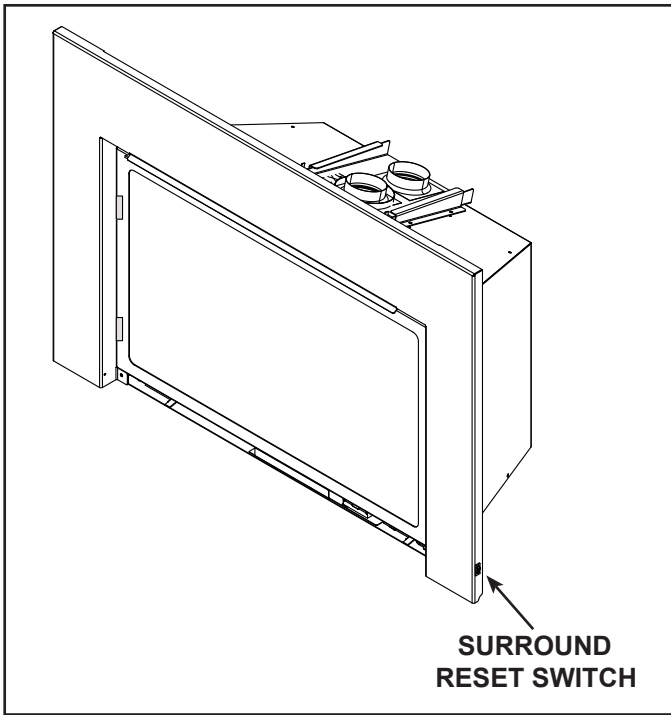

Figure 3.7 Surround Reset Switch
2. Toggle surround manual reset switch position to “OFF”. See Figure 3.7. Check to make sure the ignition module switch is **NOT** in the “ON” position.
- Toggle surround manual reset switch position to “ON”. See Figure 3.7. Check to make sure ignition module switch is in the “REMOTE” position.
- Toggle surround manual reset switch position to “ON”. See Figure 3.7.
- Toggle surround manual reset switch position to “OFF”. See Figure 3.7.
5. The module has the capability to recognize potential malfunctions. If these occur, it will fail to ignite and/or respond to a command to ignite via the wall switch and/or remote. In this case, the module may have gone into LOCK-OUT mode. In this state, it will emit a LED error code. To reset the error code, toggle the appliance reset switch to the OFF position. See Figure 3.7 for reset switch location. If the ignition command again fails, the module will emit an LED error code, prior to going back into LOCK-OUT mode. Contact your dealer for service if this occurs.
- Toggle the appliance reset switch to the off position. See Figure 3.7 for reset switch location.
- Wait five (5) minutes to allow possible accumulated gas to clear.